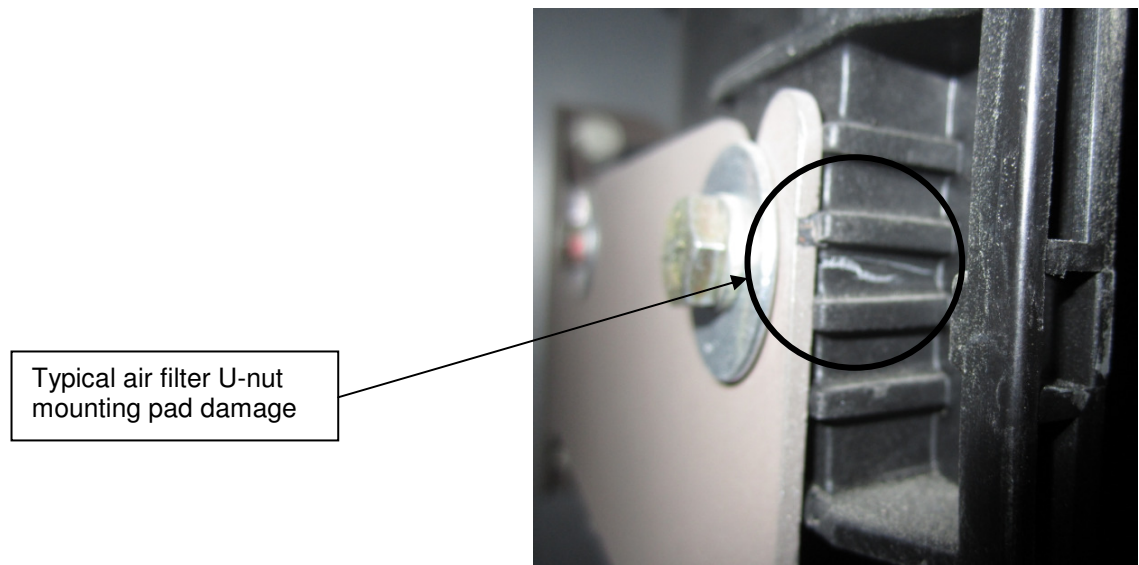

Figure 8: Mounting Pad Damage
- Possible cracking of the four air filter housing plastic U-nut mounts. See Figure 8.